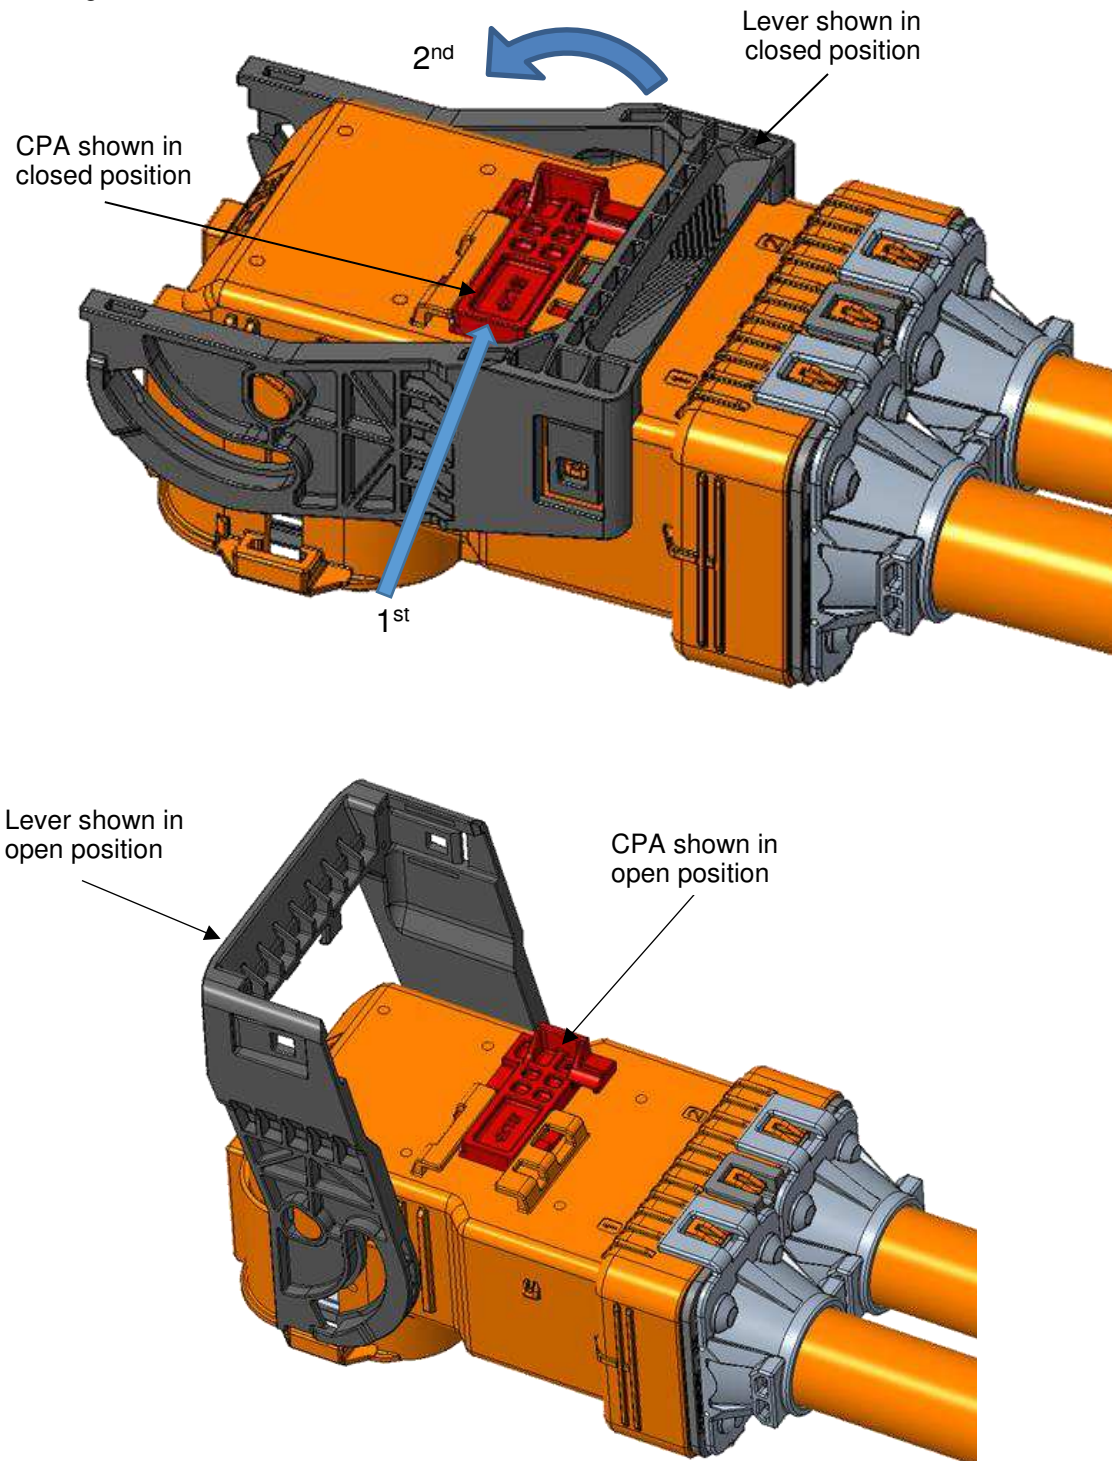

Figure 16: Assembly Lever and CPA Closed
1. If the assembly is shipped with the Lever and/or red Connector Position Assurance (CPA) in the closed position, first if necessary, actuate the CPA to the open position, then open the lever to the open position as shown in Figure 16.